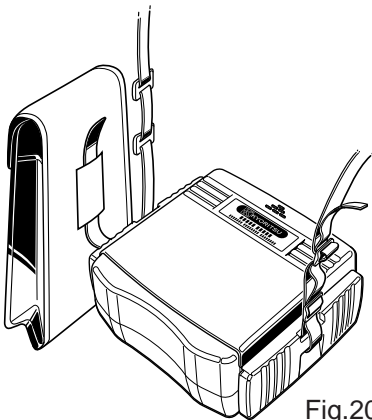

Fig.20
- 1) Pass the strap belt down through the side panel of the main body from the top, and up through the slots of the probe form the bottom. (Fig. 20)